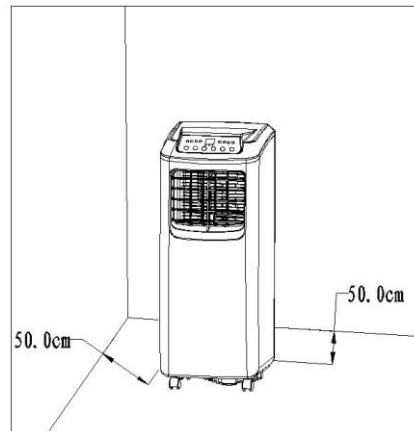

Figure 7
1). Move the machine with the heat exhaust hose assembly installed to the window and keep the unit at least 50cm (20") away from the walls or big objects as shown in Figure 7.